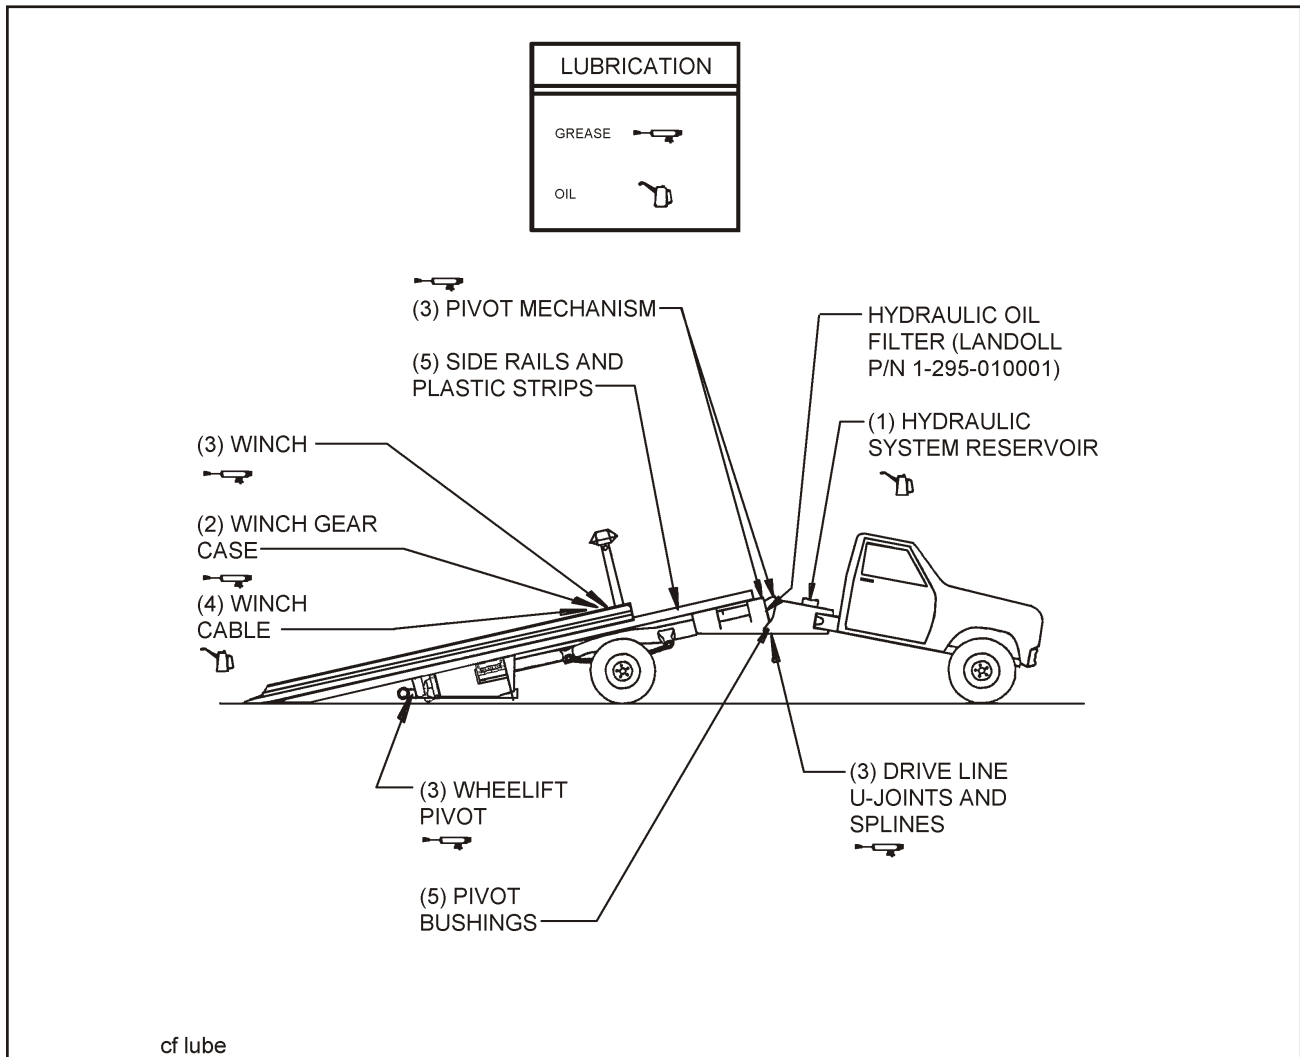

Figure 4-1 Lubrication Points
Figure 4-1 and Table 4-1 details lubrication points and intervals, method of application, and lubricant required, and illustrates the location of each part to be lubricated. During inspections of the vehicle, if lubricants are found to be fouled with dirt or sand, those parts should be cleaned with paint thinner, dried, and relubricated immediately. Dirt in a lubricant forms an abrasive compound that will wear parts rapidly.
- b. Clean the sliding surfaces with solvent or mineral spirits every six months or more frequently if exposed to extreme dirt or weather conditions. The slide wear strips are impregnated with a special lubricant, however, additional lubrication may be required to prevent chattering or squealing. **See Lubrication Points and Specifications in Figure 4-1 and Table 4-1 .**